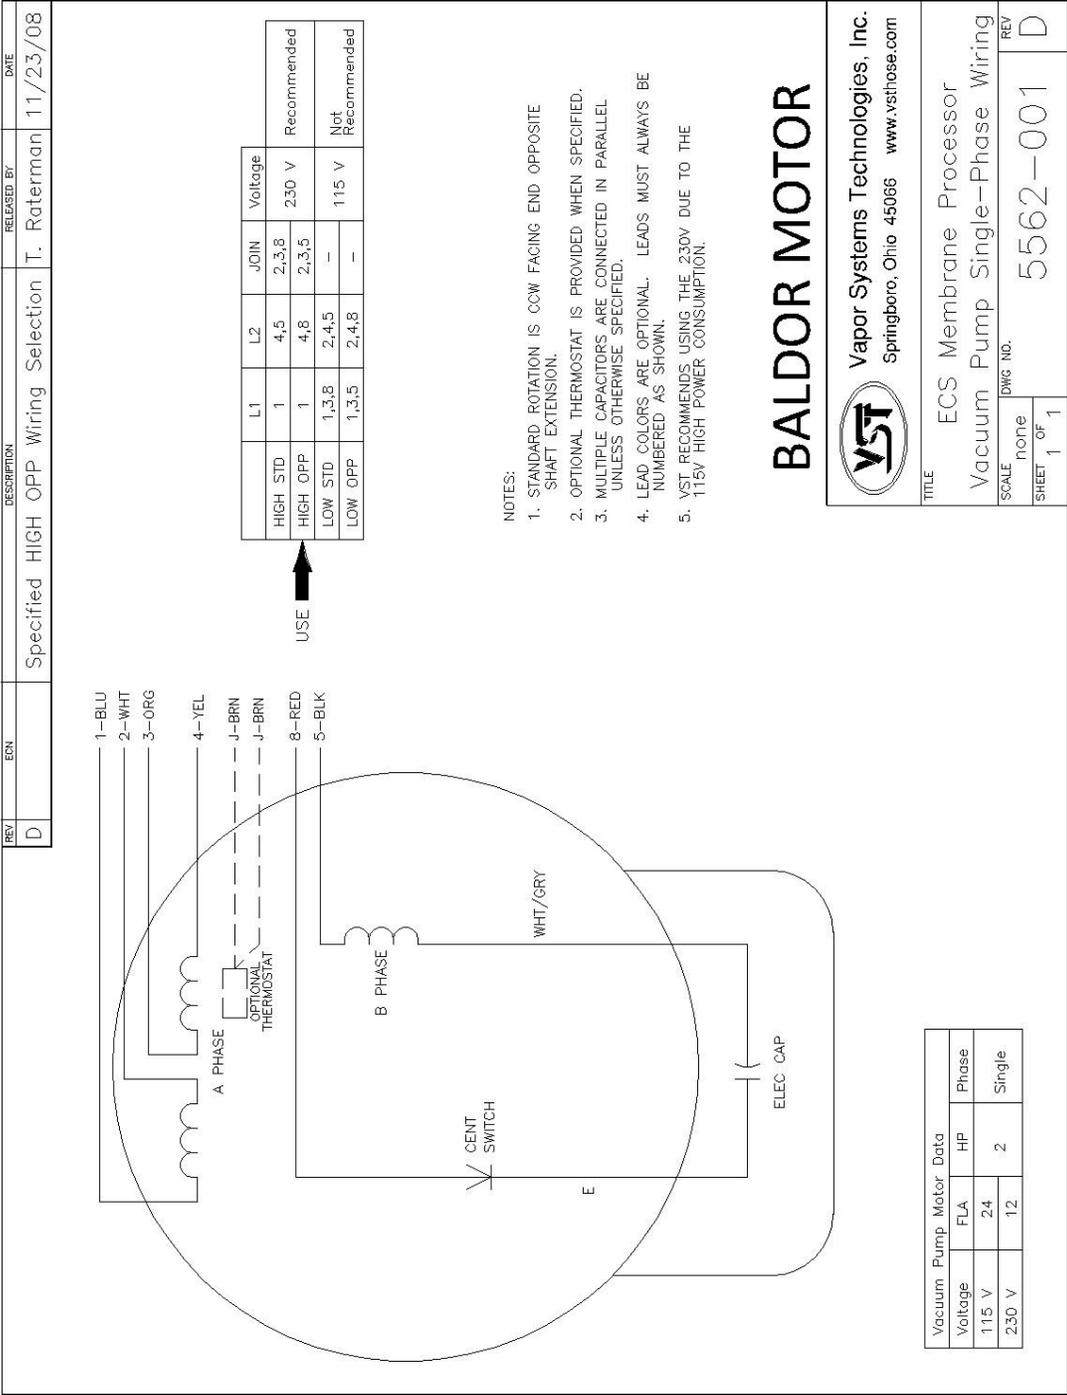

Figure 14: Vacuum Pump: Single-Phase Motor Wiring Diagram
- ▶ **See Figure 14 and Figure 16.**